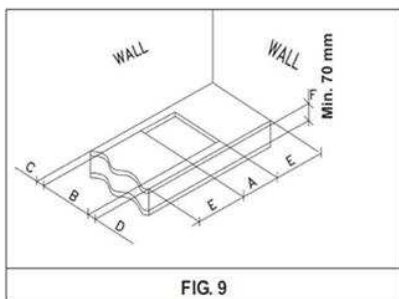
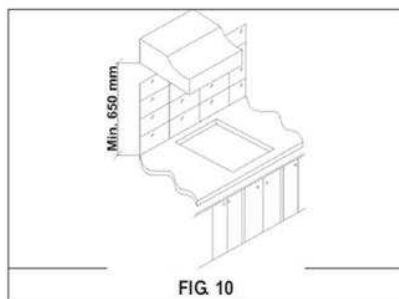

FIG. 9
FIG. 10
Make an installation opening in the worktop to accommodate the hob, using the critical dimension indicated in FIG. 9 to ensure best fit of the appliance. (see FIG. 9 and FIG. 10).
- In order to avoid accidental contact with the overheated surface of the cabinet during use, it is necessary to install a wooden divider at a minimum depth of 70mm (FIG. 9) from the top, fixing it in place with screws.